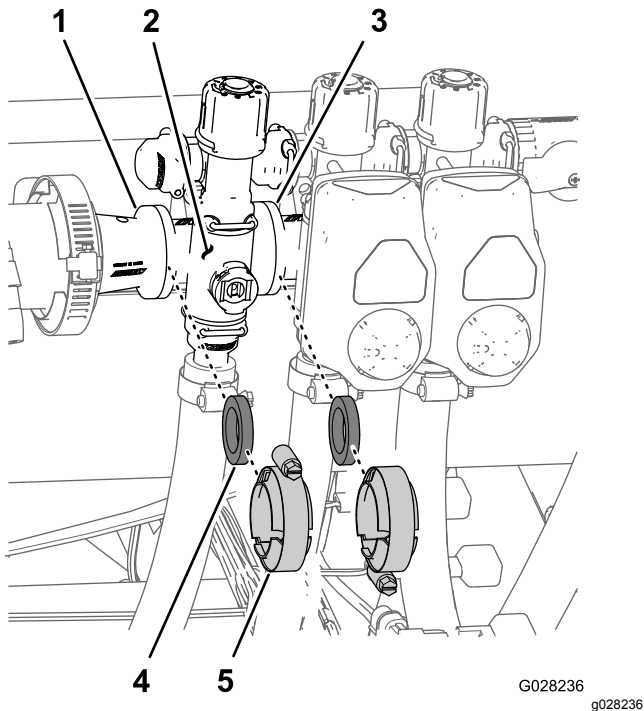

**Figure 67**
- Remove the flanged-head bolt and flanged locknut that secures the master-section valve to the valve mount and remove the valve manifold from the machine (Figure 67).